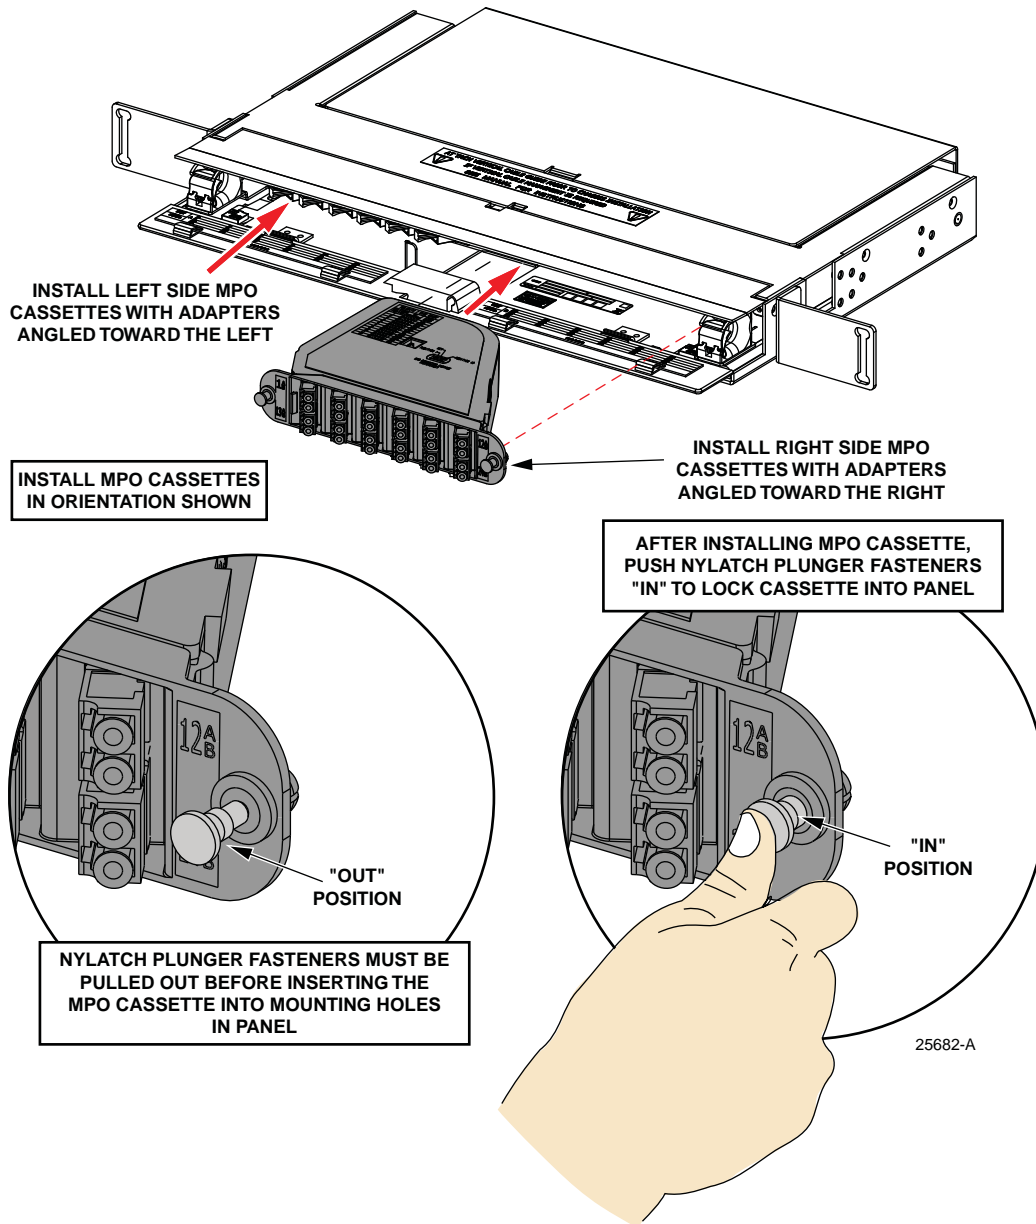

Figure 14. Installing MPO Cassettes
- Pull the Nylatch plunger fastener out, orienting the MPO as shown in Figure 14.
To remove an MPO cassette, pull the Nylatch plunger fastener out, as shown in Figure 14, to release the cassette, then withdraw it from the panel.